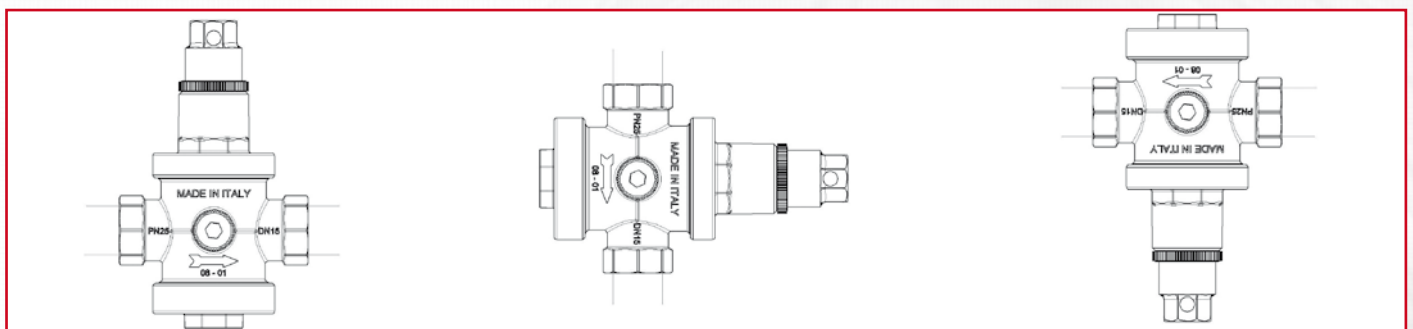

FIG. 4.1
- Svitare la ghiera in nylon (fig. 4.1).
- *Unscrew the nylon nut (Fig. 4.1)*